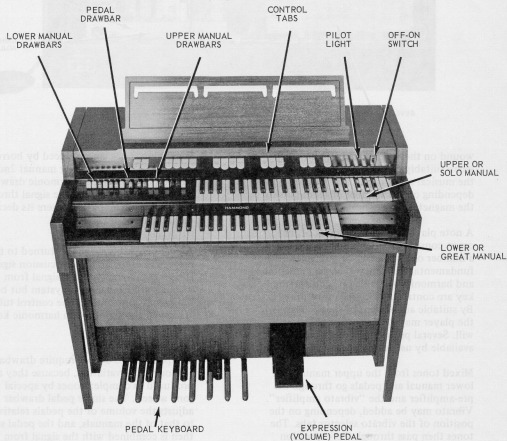

Figure 1-1. L-100 Console, Front View
- 1-1. GENERAL** – This section contains a description of the operating principles of L-100 Series organs. Figures 1-1 and 1-2 depict the locations of the various subassemblies. Figure 1-3 is a block diagram.
A toggle switch (Figure 1-1) controls power to the organ.
1-9. **EXPRESSION PEDAL.** — The expression pedal, sometimes called "swell" pedal (Figure 1-1) is operated by the player's right foot and varies the volume of both manuals and pedals together. When the pedal is tilted back (closed) by pushing on the player's heel the music is softest, and when pushed forward (opened) by the player's toe the music is loudest.